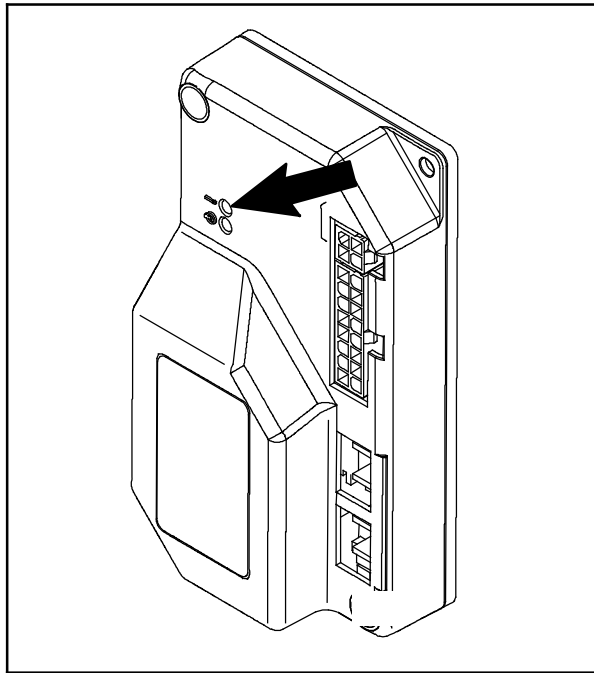

FIG. 9
16. **Calibration:** Turn OFF all machine functions and options. All functions / options (spray nozzle, lights, etc...) must be OFF when the power steering motor (1) is calibrated. The power steering motor will not calibrate if functions / options are on.
17. **Calibration:** Quickly squeeze / activate the switch (4) lever four times within 3 seconds. The power steering controller LED will illuminate each time the snap switch lever is squeezed. The LED will remain illuminated for 2 seconds the fourth time the snap switch lever is squeezed to show the sequence is completed. (Fig. 9)